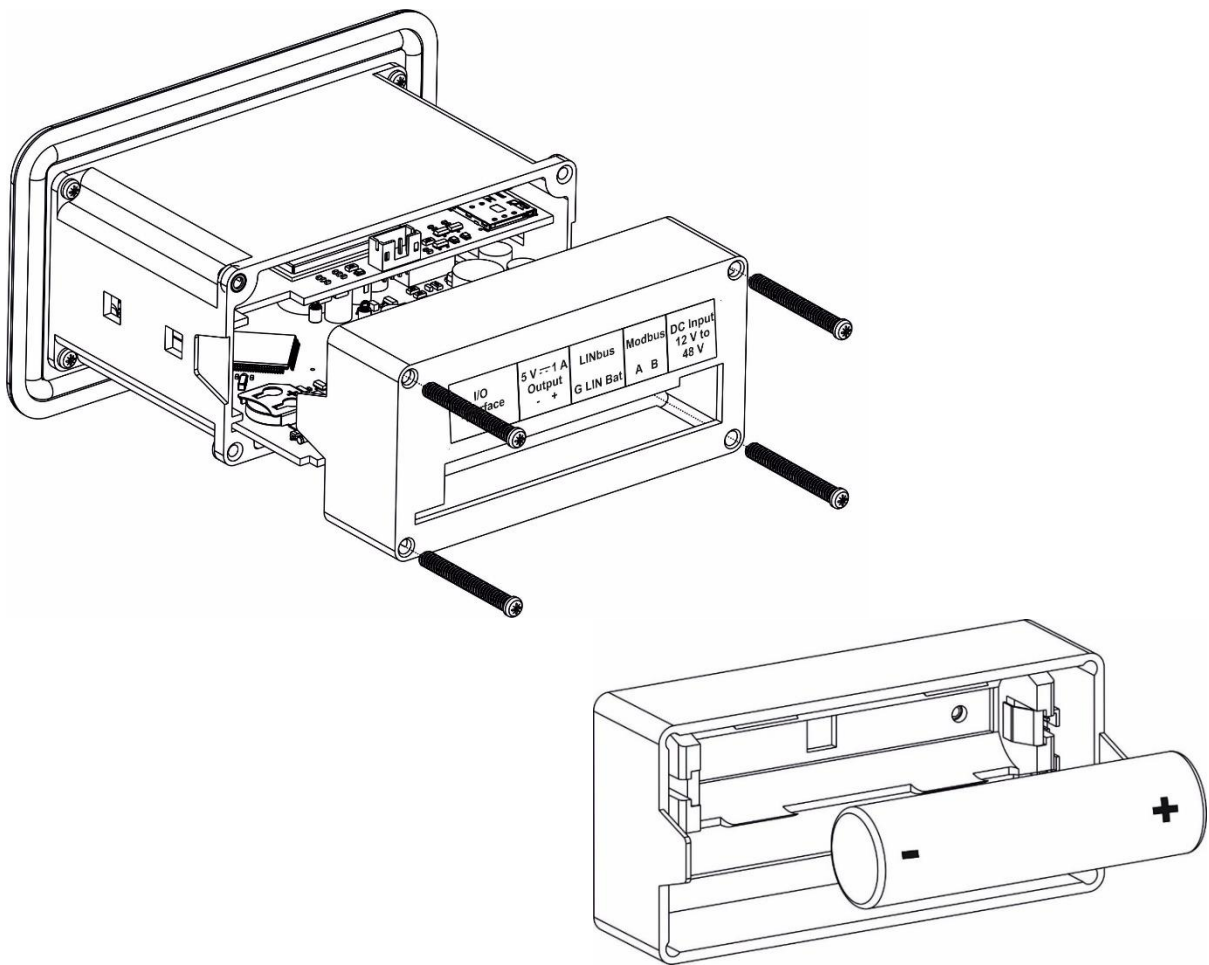

Figure 7 Inserting the Battery
- Switch off the power supply of the data logger and open the Back cover of the data logger to insert the battery as shown in figure 7.